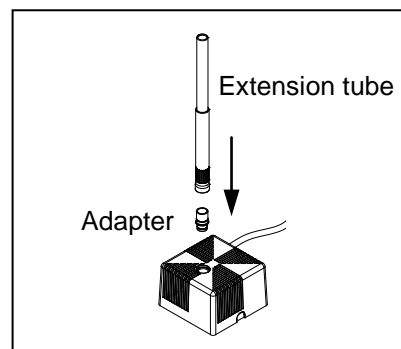

Fig. 2
2. Connect extension tubes to the pump using the supplied adapter. Fig. 2